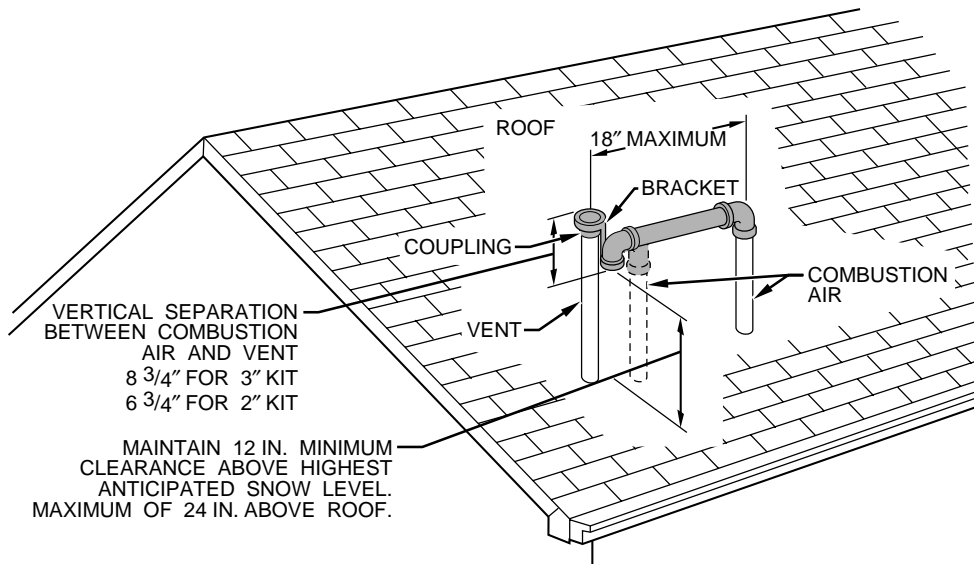

Fig. 37—Roof Termination (Preferred)
Combustion-air and vent pipes must terminate outside structure. A factory accessory termination kit must be installed in 1 of the installations shown in Fig. 37, 38, 39, 40, or 41. Four termination kits are available.
NOTE: Shaded parts in Fig. 37, 38, 39, 40, and 41 are considered to be terminations. These components should NOT be counted when determining pipe diameter. Roof termination is preferred
since it is less susceptible to damage, has reduced chances to take in contaminants, and has less visible vent vapors. (See Fig. 37 or 38.) Sidewall termination may require sealing or shielding of building surfaces with a corrosive resistance material due to corrosive combustion products of vent system.
Roof terminations—Loosely install pipe coupling on properly cut vent pipe. Coupling must be positioned so bracket will mount as shown in Fig. 37.
For applications using combustion-air pipe option indicated by dashed lines in Fig. 37, install 90° street elbow into 90° elbow, making U-fitting. A 180° U-fitting may be used.
5. Check required dimensions as shown in Fig. 37, 40, or 41.